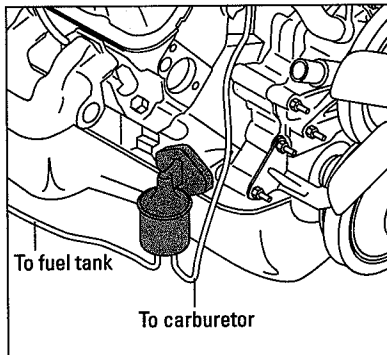

Figure 21-2:
2. **Disconnect the fuel pump end of the hose that leads from the carburetor to the fuel pump (see Figure 21-2) and place the end of the hose in a jar or plastic bag.**